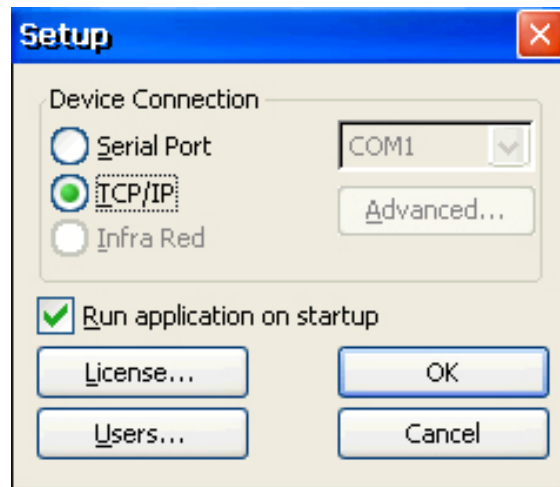

Figure 5.2.1
2. From the *Remote Agent* dialog, click the **Setup** button to open the Setup dialog (see Figure 5.2.1).